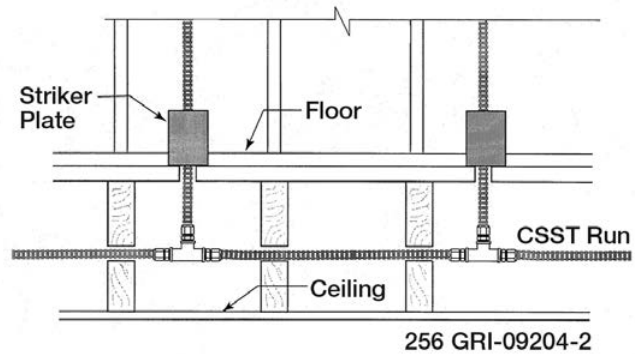

Fig. 4-36
- a) New Installations (Fig. 4-36) – When multiple gas outlets are supplied from a single run of Gastite®/FlashShield® CSST, each downstream outlet branch can be connected to the main run using a tee-type fitting which can be located in a concealed location.